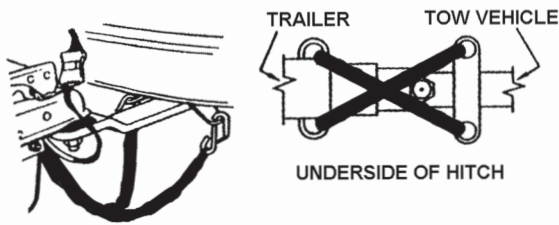

Figure S16: Crossing the Safety Cables
9. Safety cables are provided and must be used. Cross the safety cables under the coupling and attach to the towing vehicle's frame or bumper. See Figure S16. Always allow slack for turns. Regulations vary from state to state. Please check the local laws in your state.